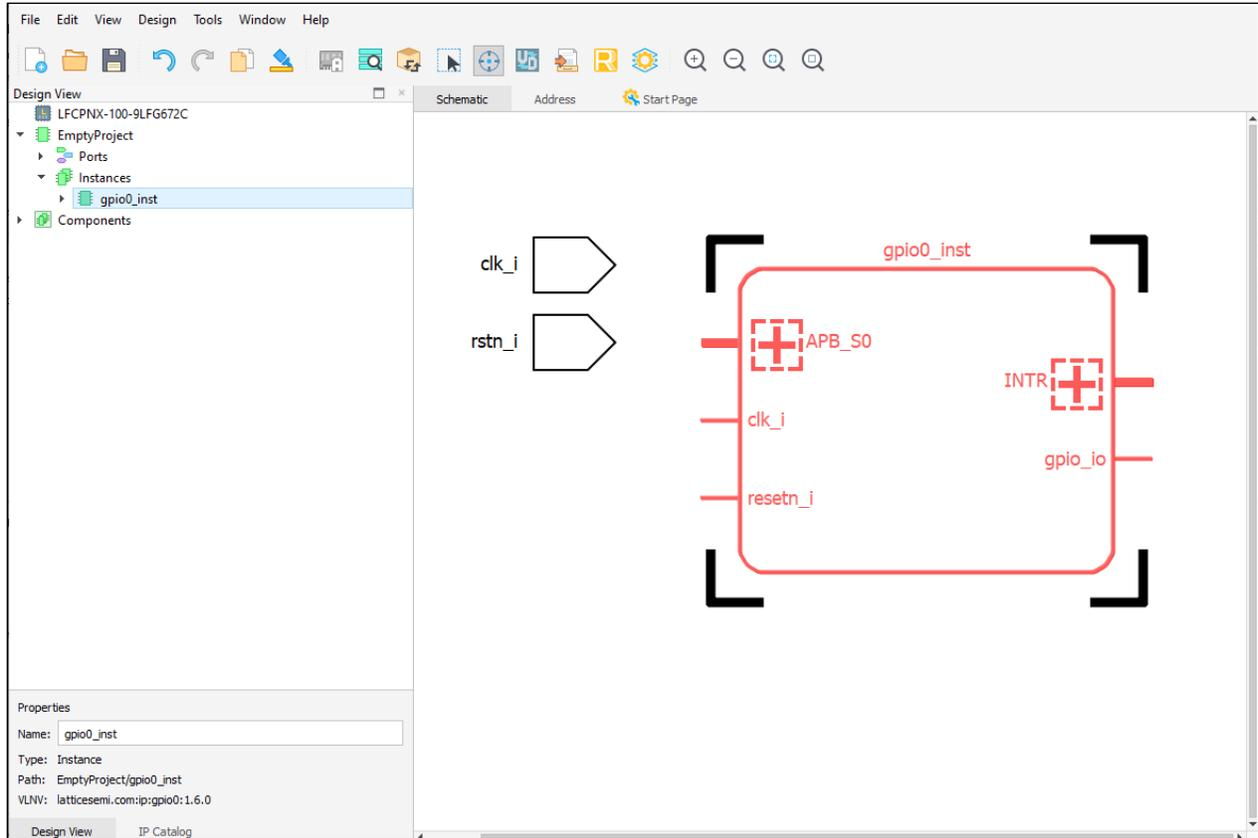

Figure 2.33. Locate Objects
2. Select the object in the List view of the Design View. The selected object is in the center of the Schematic View (Figure 2.33).